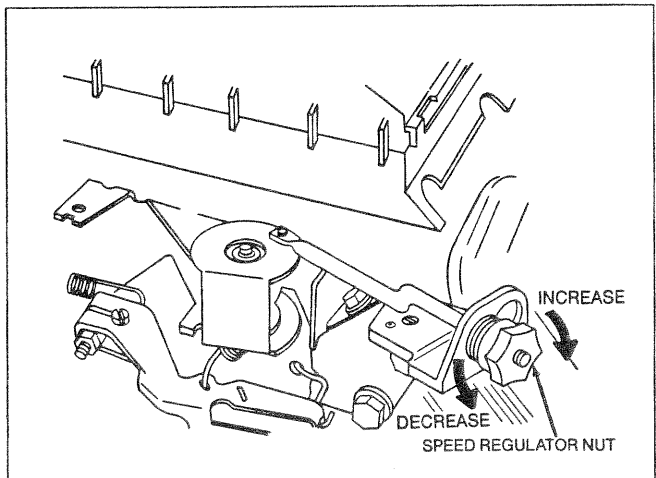

Figure 115. Governor Adjust (Horizontal Shaft)
- For generators rated at a frequency of 60 Hertz, turn the SPEED REGULATOR NUT (Figure 115) until the frequency meter reads as close as possible to 62 Hertz.
- For generators rated at a frequency of 50 Hertz, turn the SPEED REGULATOR NUT (Figure 115) until the frequency meter reads as close as possible to 51 Hertz.